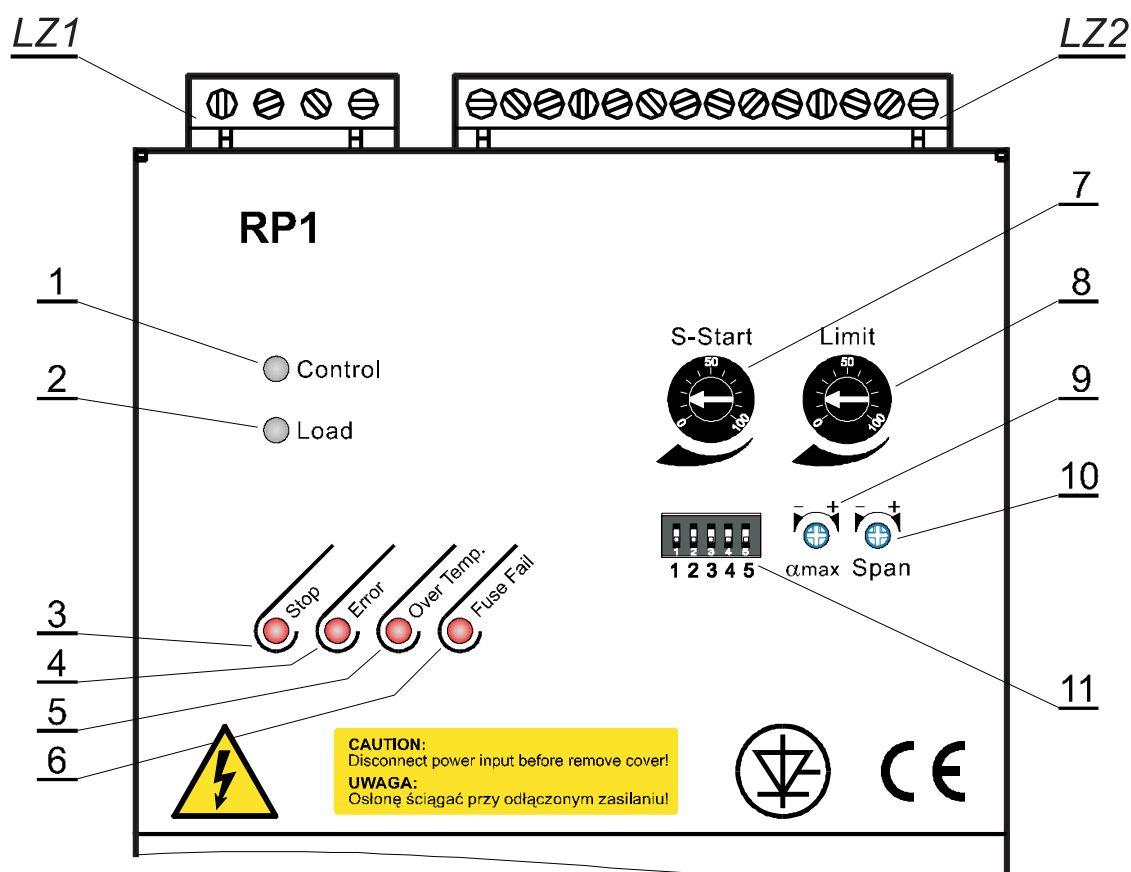

Fig. 3 View of the frontal plate
**Servicing elements are disposed on the power controller frontal plate (Fig. 3.)**